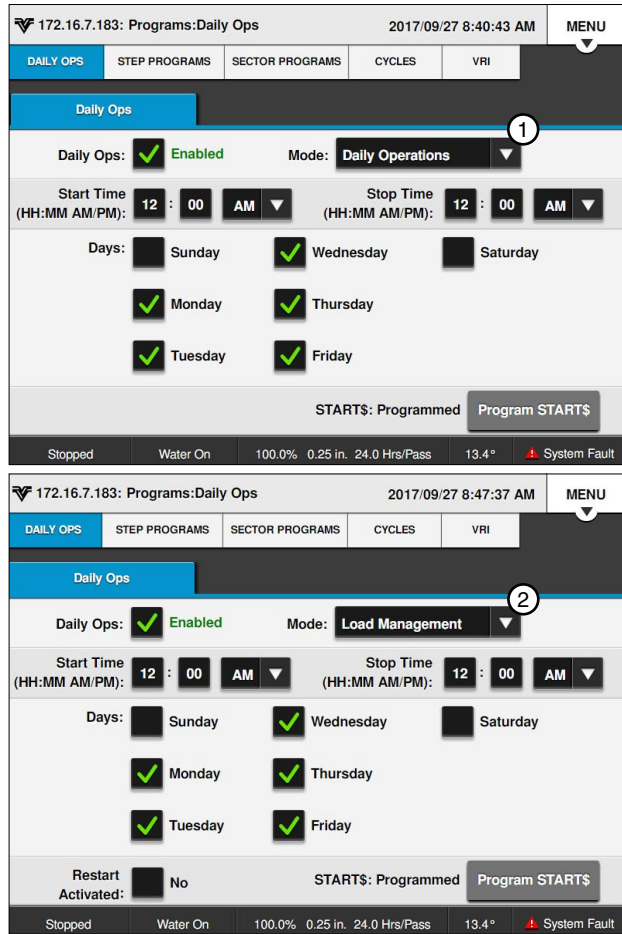

Figure 90-1 Daily Ops Screen
- If the current day is selected in Daily Operations, and it is the start time, the START\$ program runs and the machine starts. Refer to Figure 90-1.
- If the current day is selected in Daily Start/Stop, and it is the start time, the START\$ program runs and the machine starts. Refer to Figure 90-1.